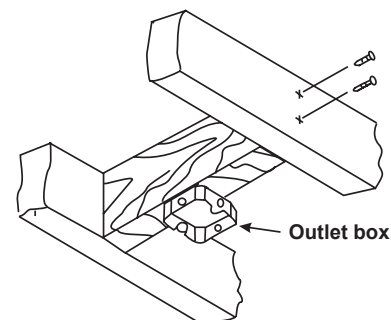

Fig. 1
**Option 1:** Recessed outlet box mounted to support brace fitted securely between joists. (Fig. 1)